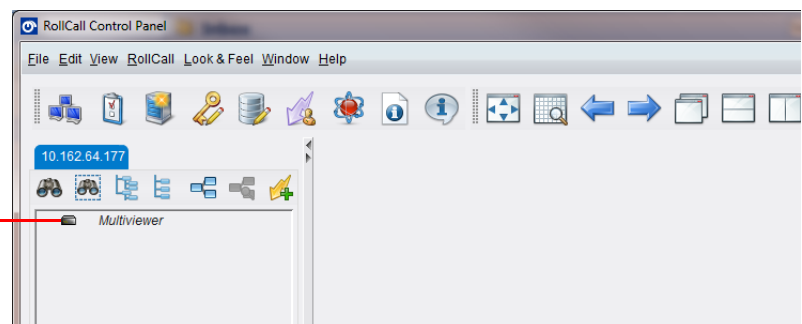

Figure 50 RollCall Connected to MV-805 IP Multiviewer
4. After a short period displaying "Connecting", RollCall Control Panel will connect to the MV-805 IP Multiviewer. See Figure 50.